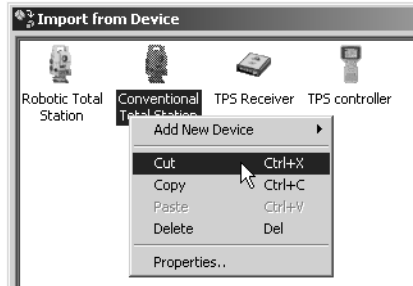

Figure 2-4. Device Pop-up Menu
- Right-clicking any device icon displays a pop-up menu from which you can (Figure 2-4 on page 2-3):